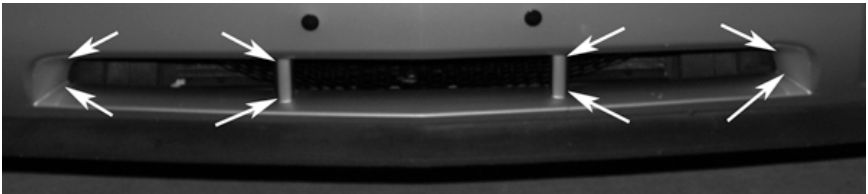

Figure 12. Locations to drill holes for lower grille option
4.1) Drill 1/16” holes, in the locations shown in **Fig. 12**